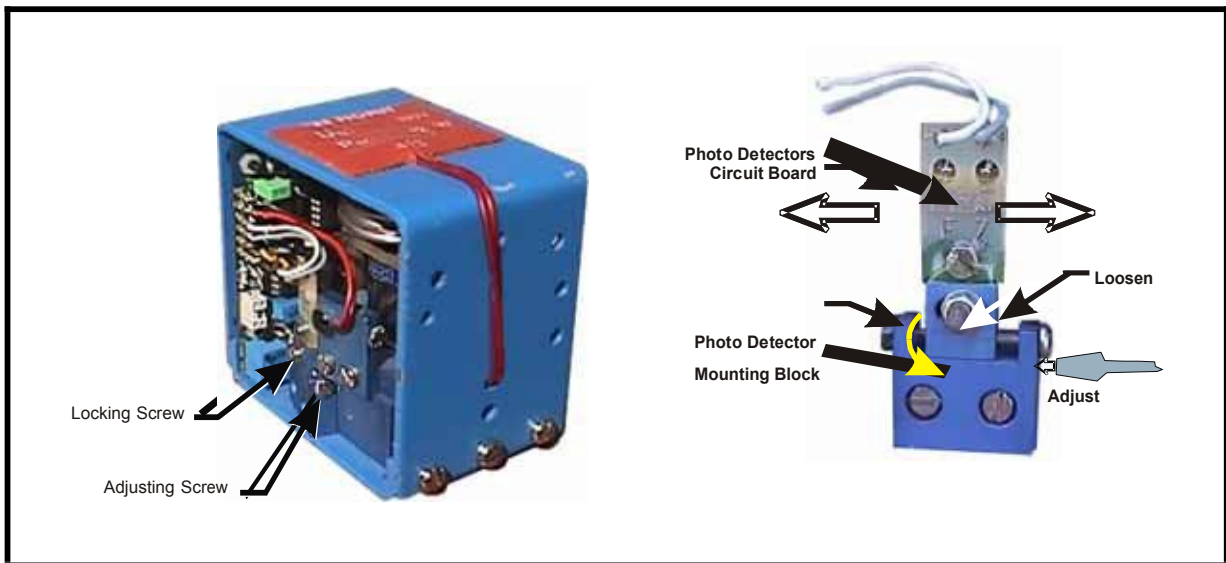

Figure 8-1 Oxygen sensor adjustment
- e) Loosen the locking screw that secures the adjusting screw for positioning the photo-sensor on the detector assembly. Only loosen the locking screw enough to permit the necessary adjustment (see Figure 8-1).